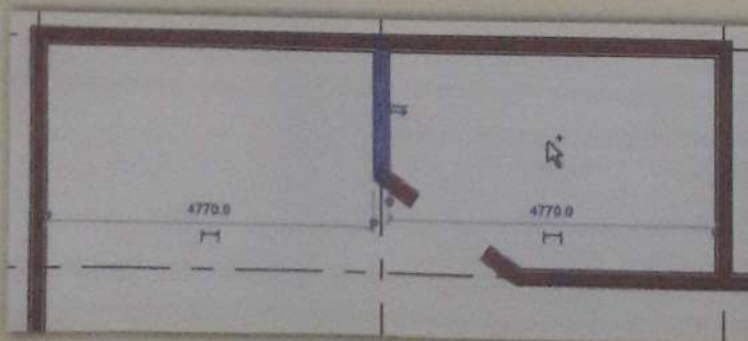

Figure 90: Select Wall.
5. In the same way create another opening as shown in the (Figure 90,91&92).